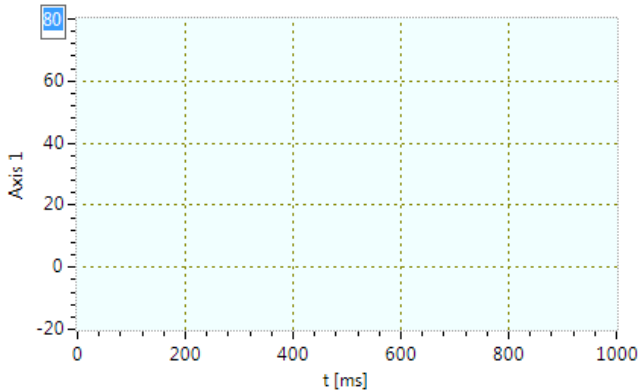

Figure 10: Changing the Y axis range
- The min/max range of an axis can also be changed by clicking on the min/max axis label (Figure 10).
4. To define the pre-trigger and the post-trigger duration set **Axes > TimeAxis > Range > Minimum/Maximum** in the **Plot** tab or click on the min/max label of the time axis (Figure 10).